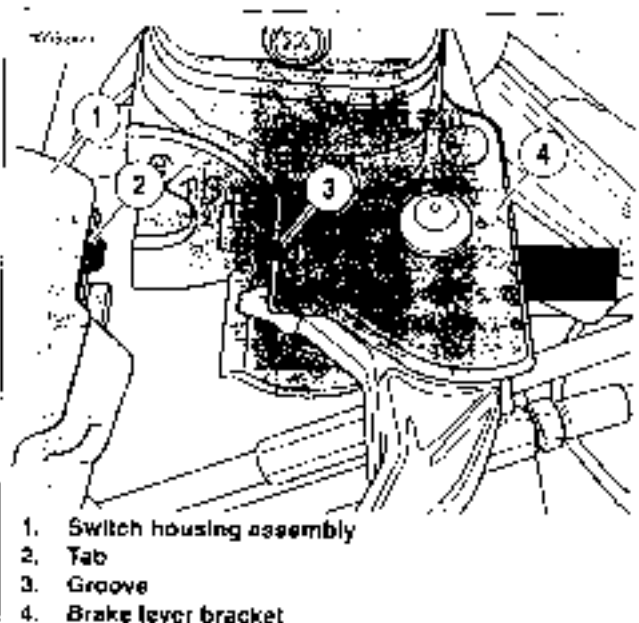

Figure 8-78. Switch Housing Alignment
9. See Figure 8-78. Position the brake lever/master cylinder assembly inboard of the switch housing assembly, engaging the tab (2) on the lower switch housing in the groove (3) at the top of the brake lever bracket.